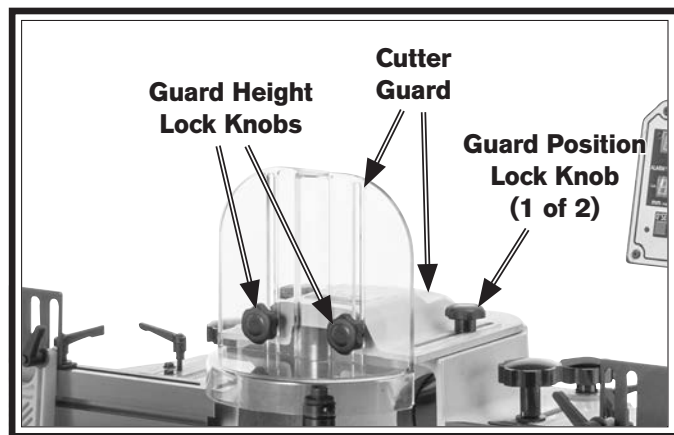

Figure 35. Guard position adjustment components.
2. Loosen guard position lock knobs, adjust guard forward or backward as needed, and tighten knobs (see **Figure 35**).
3. Loosen guard height lock knobs, adjust front guard up or down, and tighten knobs (see **Figure 35**).